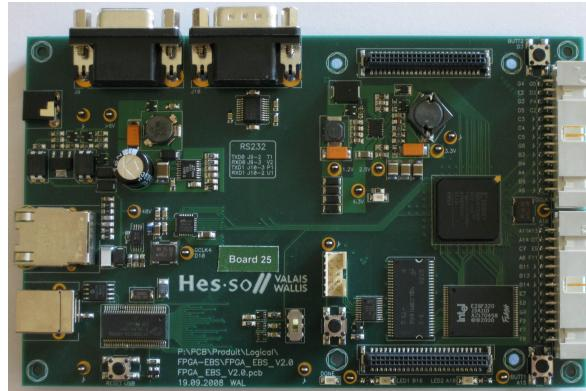
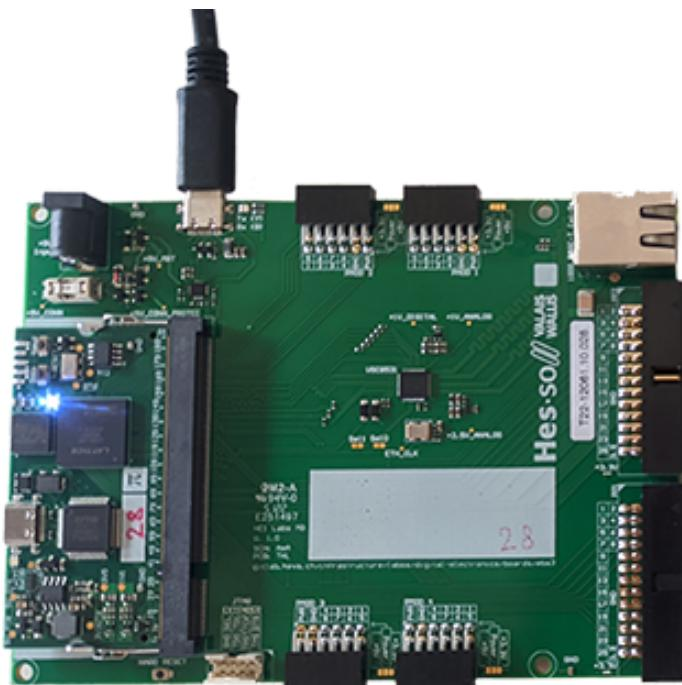

Figure 12 - EBS2 FPGA board [7]
Figure 13 - EBS3 FPGA board [11]
- A FPGA development board (Figure 12 or Figure 13).